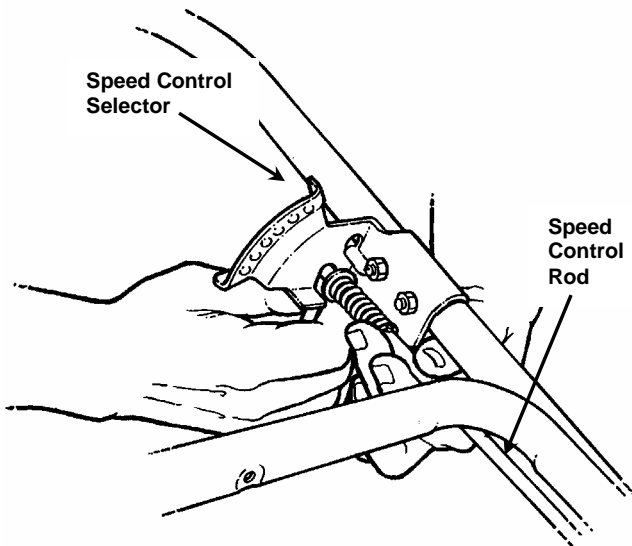

FIGURE 1
- STEP 4:** Install speed control rod into speed control sector. See Figure 1.